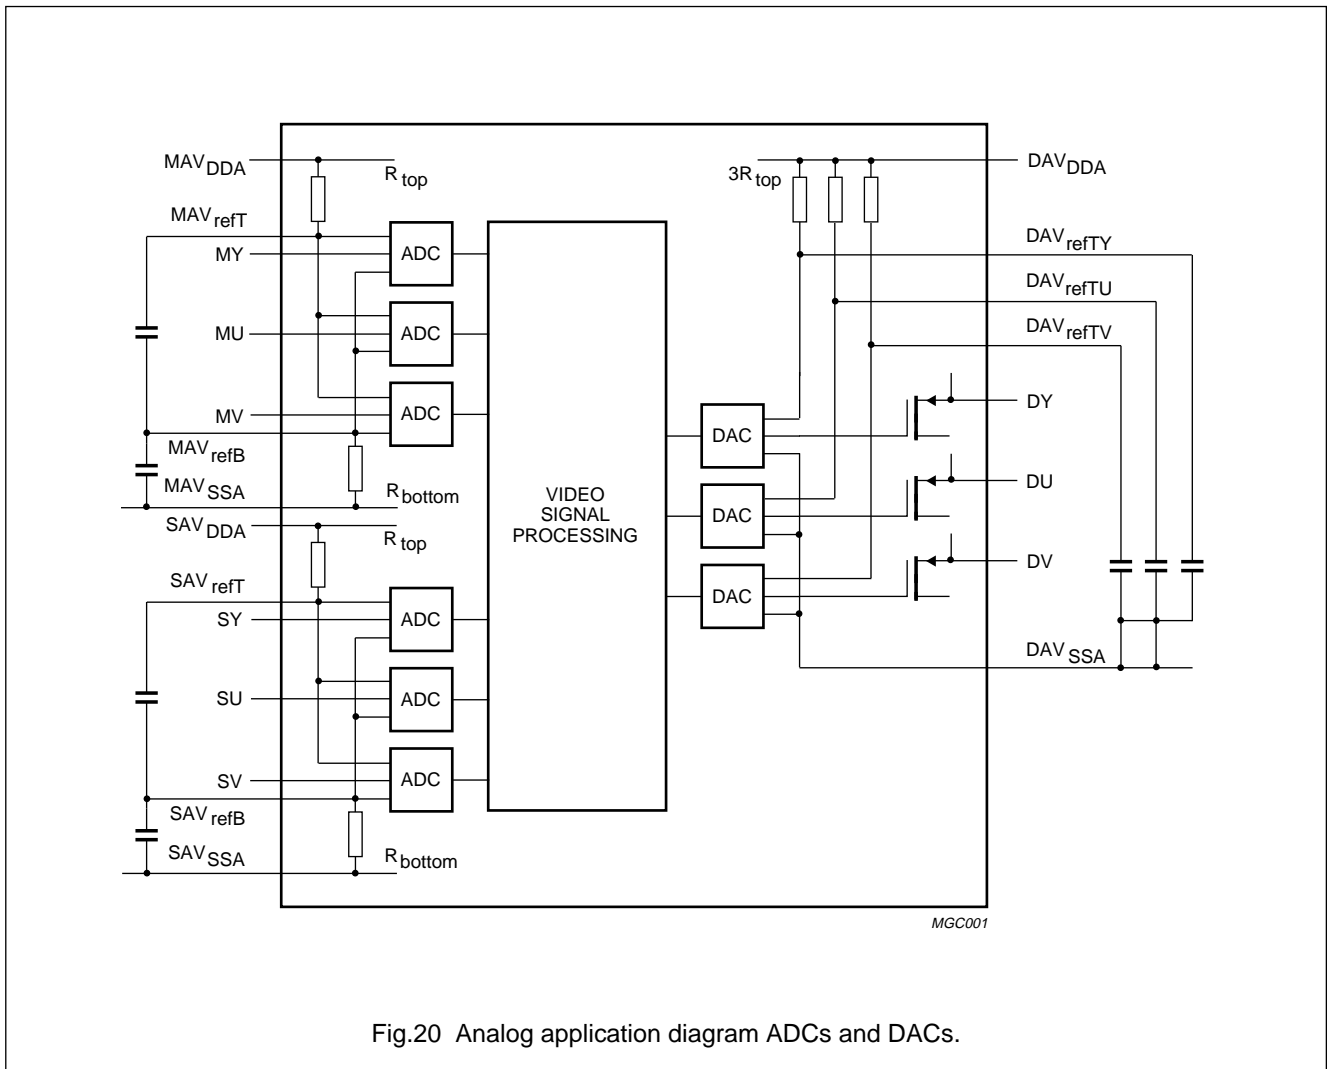

Fig.20 Analog application diagram ADCs and DACs.
- The input configuration of the ADCs is depicted in Fig.20. The minimum difference $AV_{\text{refT}} - AV_{\text{refB}}$ should be larger than 1.0 V. The reference voltages can be calculated as follows:
Fig.20 shows how the ADCs and the DACs can be connected in the application.